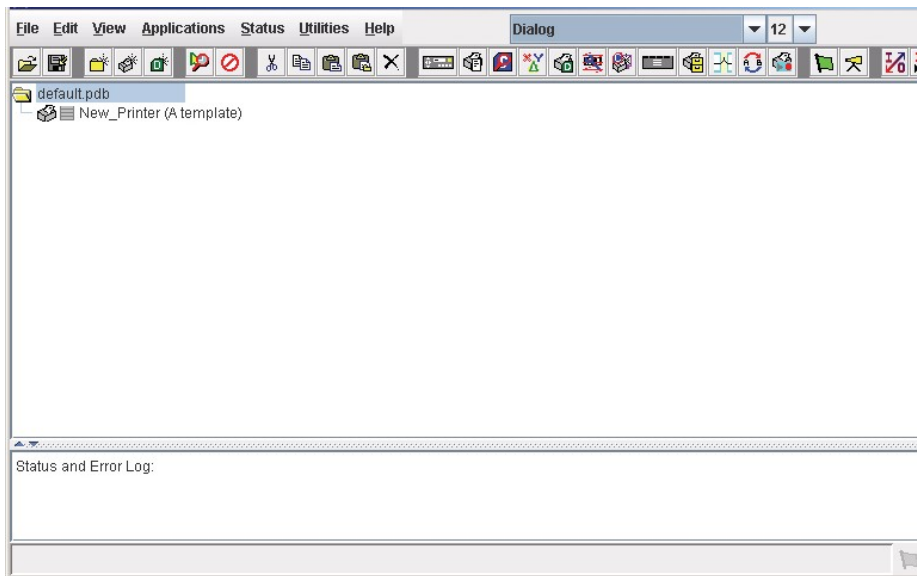

Figure 1 Printer Database Main Window
2. From your operating system, launch PNE. Click the splash screen to see the main window of the printer database more clearly. See Figure 1.